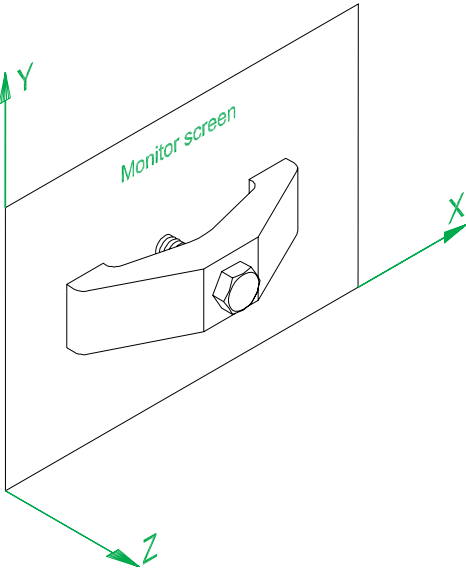

Fig. 1.19 A 3D model drawing showing the X,Y and Z coordinate directions
3D coordinates include a third coordinate (Z), in which positive Z units are towards the operator as if coming out of the monitor screen and negative Z units going away from the operator as if towards the interior of the screen. 3D coordinates are stated in terms of x,y,z . $x,y,z = 100,50,50$ is 100 units to the right of the origin, 50 units above the origin and 50 units towards the operator. A 3D model drawing as if resting on the surface of a monitor is shown in Fig. 1.19.